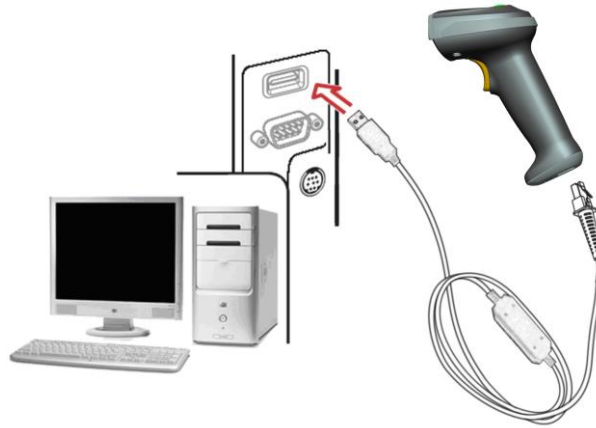

Figure 6-3
1. Refer to Figure 6-3, connect the USB interface cable to the bottom of the scanner.